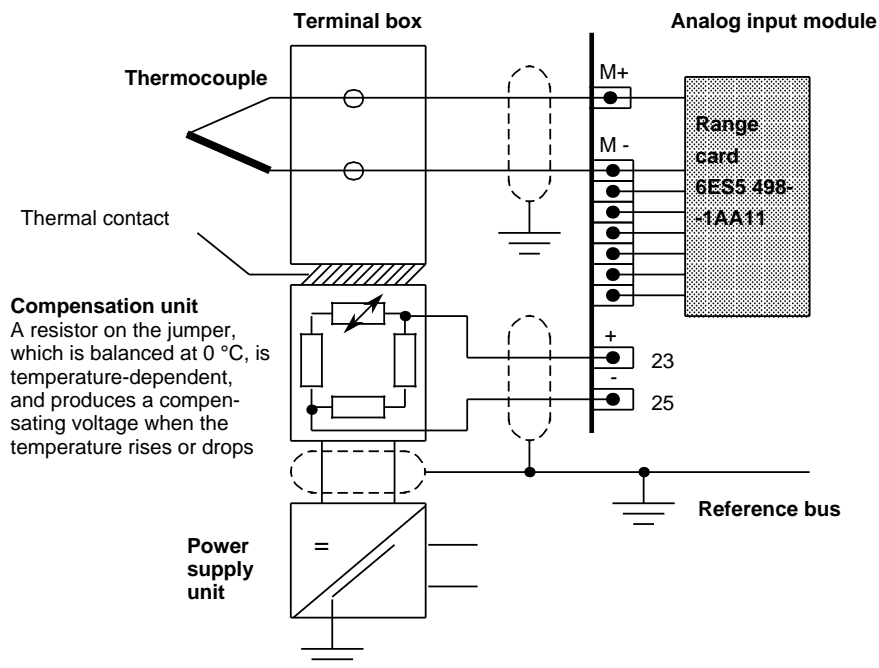

Figure 10-4. Connecting Thermocouples
- Apply compensating voltage to pins 23 and 25 (KOMP+and KOMP -) on the analog input module (Figure 10-4)